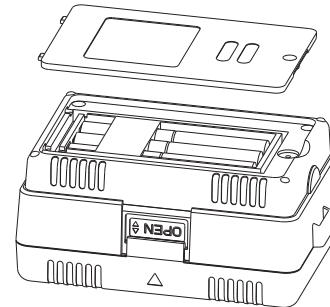

Figure 4
7. Maintenance & Repair**7.1 Maintenance****7.1.1 Replacing the Battery (See Figure 4)**